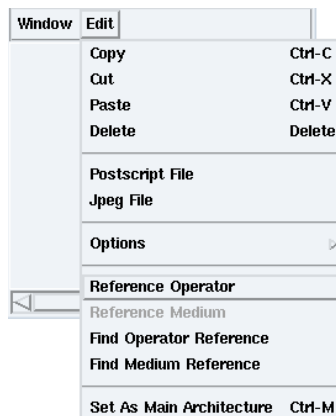

Figure 1.15: **Edit / Reference Operator**
- to create a reference to the operator `Uinout`, **Edit / Reference Operator** (cf. figure 1.15) → dialog window: click **user**, double click **Uinout** → dialog window: `u1`,